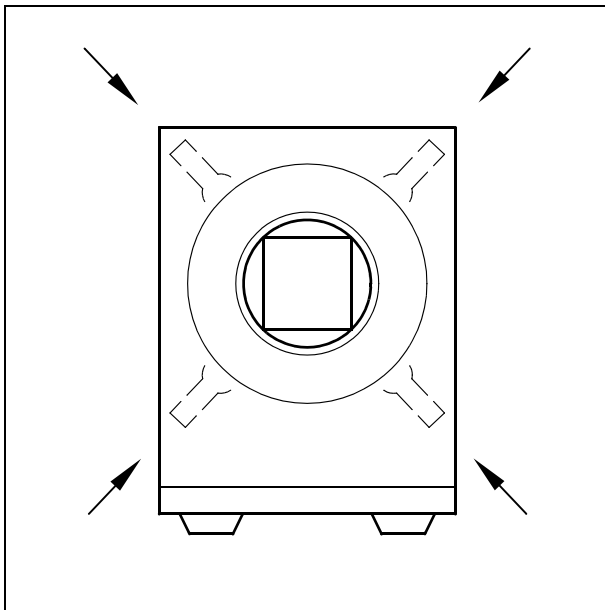

Fig. 4
- Remove the collimator after removing the four Allen screws (arrow / Fig.4/5).
- Attach the new collimator with the four screws (arrow / Fig.4/5) and center it.